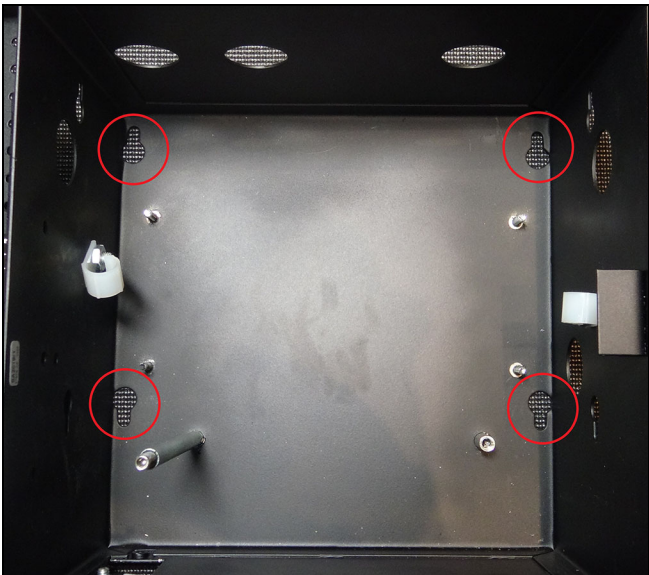

Figure 11 Rear mounting holes. Controller removed for illustrative purposes only.
2. Mount the box from the side or back using the installation keyholes on the control box and the installation screws provided. Use an extended #2 Phillips bit to aid in installation. When mounting on the back start with the bottom left screw first. Fasten all screws to securely mount the control box (4 screws for rear mount, 2 screws for side mount). See Figure 11.